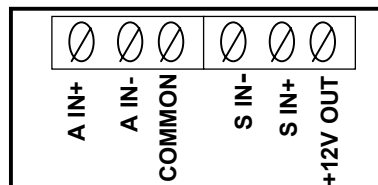

Figure 10
6. Inserts the sensor's DC common wire into the **COMMON** terminal and secure the wire by turning the terminals's screw clockwise. *(Refer to the MX001 box or to Figure 10 for the order of the terminals for the sensor wires.)*